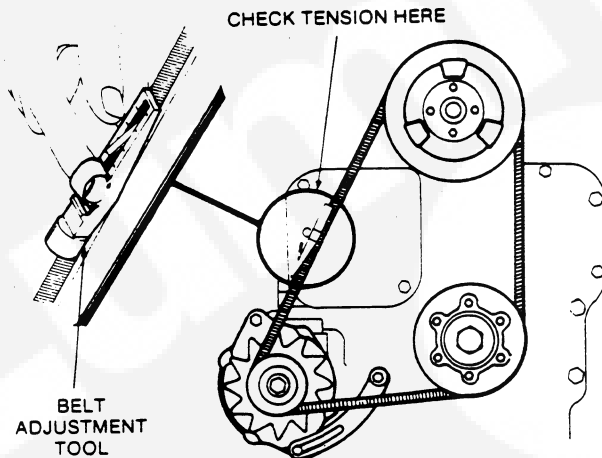

FIGURE 1. FAN BELT ADJUSTMENT
3. To obtain proper belt tension, loosen alternator adjusting bracket and mounting capscrew and move alternator in or out as required (Figure 1).